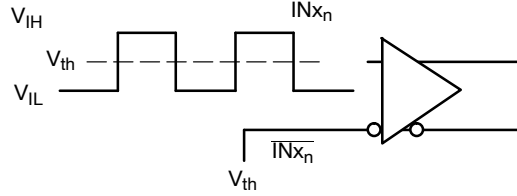
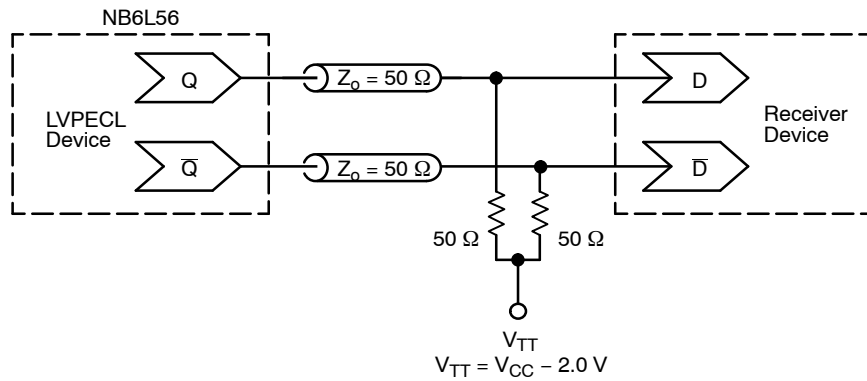

Figure 5. Differential Input Driven Single-Ended
Figure 16. Typical Termination for LVPECL Output Driver and Device Evaluation
DIFFERENTIAL INPUT DRIVEN SINGLE-ENDED (Note 6) (Figures 5 and 6)
5. Outputs evaluated with 50Ω resistors to $V_{TT} = V_{CC} - 2.0$ V for proper operation (See Figure 16).
8. Differential 50% duty cycle at $V_{INPPmin}$ clock source. Outputs evaluated with 50 Ω resistors to $V_{TT} = V_{CC} - 2.0$ V (See Figure 16). Input crosspoint to output crosspoint for INxn/INxn to Qx, Qx; 50% input to output crosspoint for SELx to Qx, Qx. See Figures 5, 10 and 11.